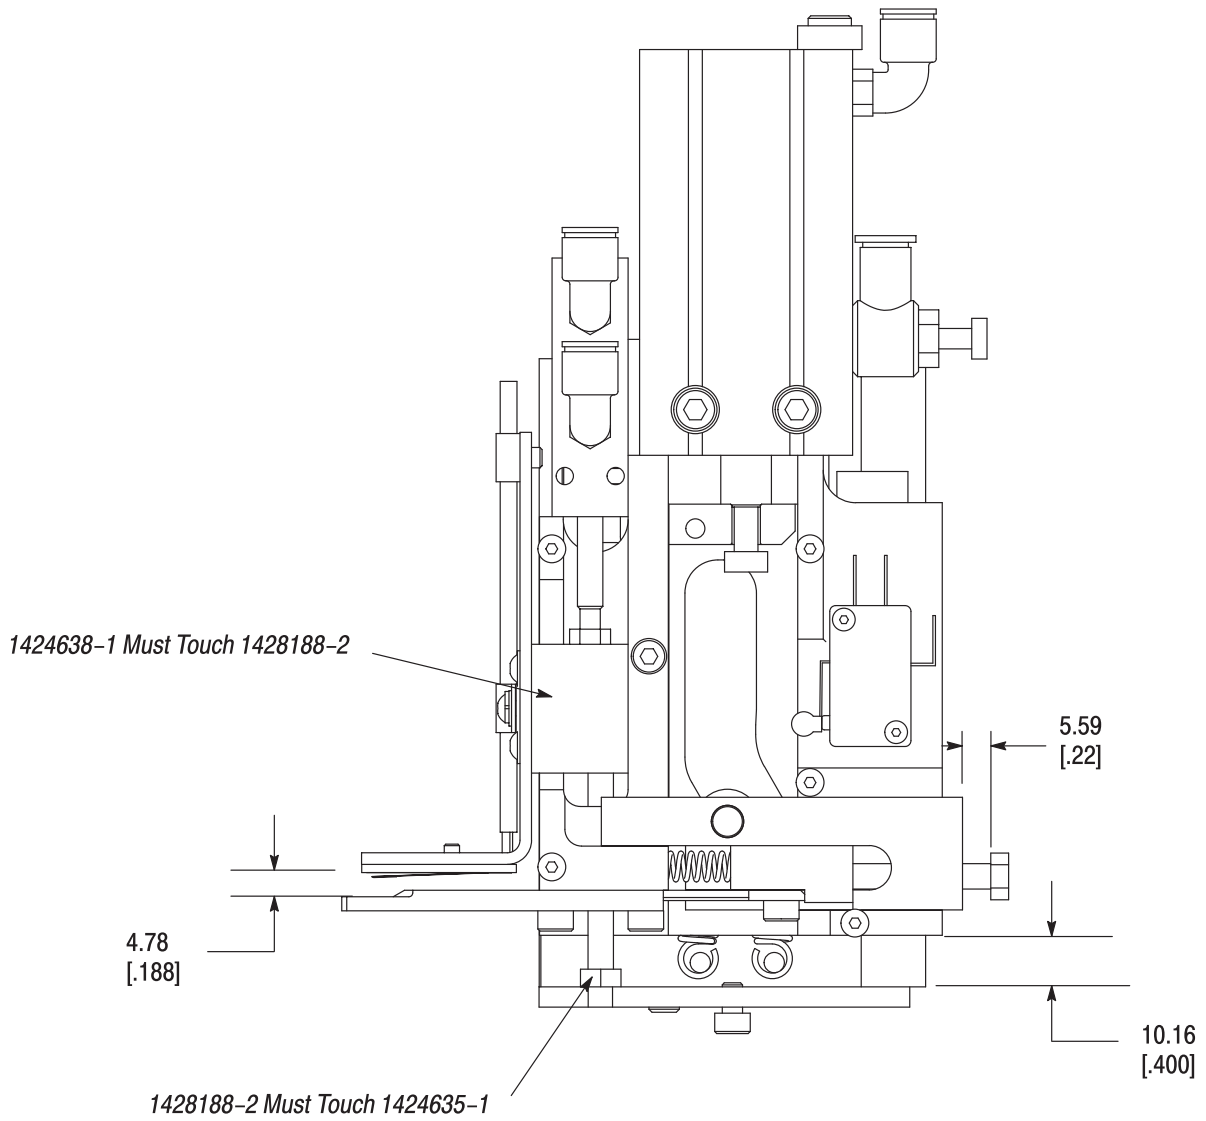

Figure 16
5. Turn the strip length screw (Figure 12) clockwise until the main block is 10.16 [.400] from the strip cam stop plate. See Figure 16.